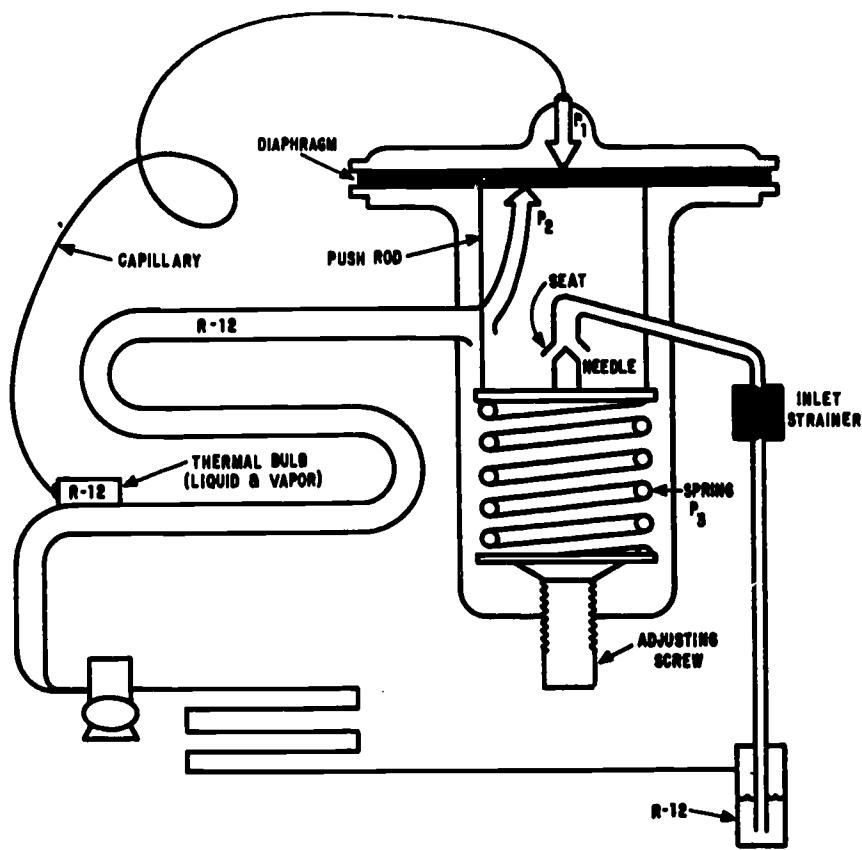

Fig 4-12. Thermostatic expansion valve.
The thermostatic expansion valve consists of the following parts: a thermal bulb, capillary, diaphragm, push rods, valve seat and needle, spring, and an adjusting screw (see fig 4-12). The thermal bulb, which is a power element, contains a charge of refrigerant. Pressure developed by the charge is transmitted through the capillary to the diaphragm. The type of charge in the bulb depends on the application. Charges are classified into four main groups: (1) gas-charged, (2) liquid-charged, (3) cross-charged, and (4) special-charged.